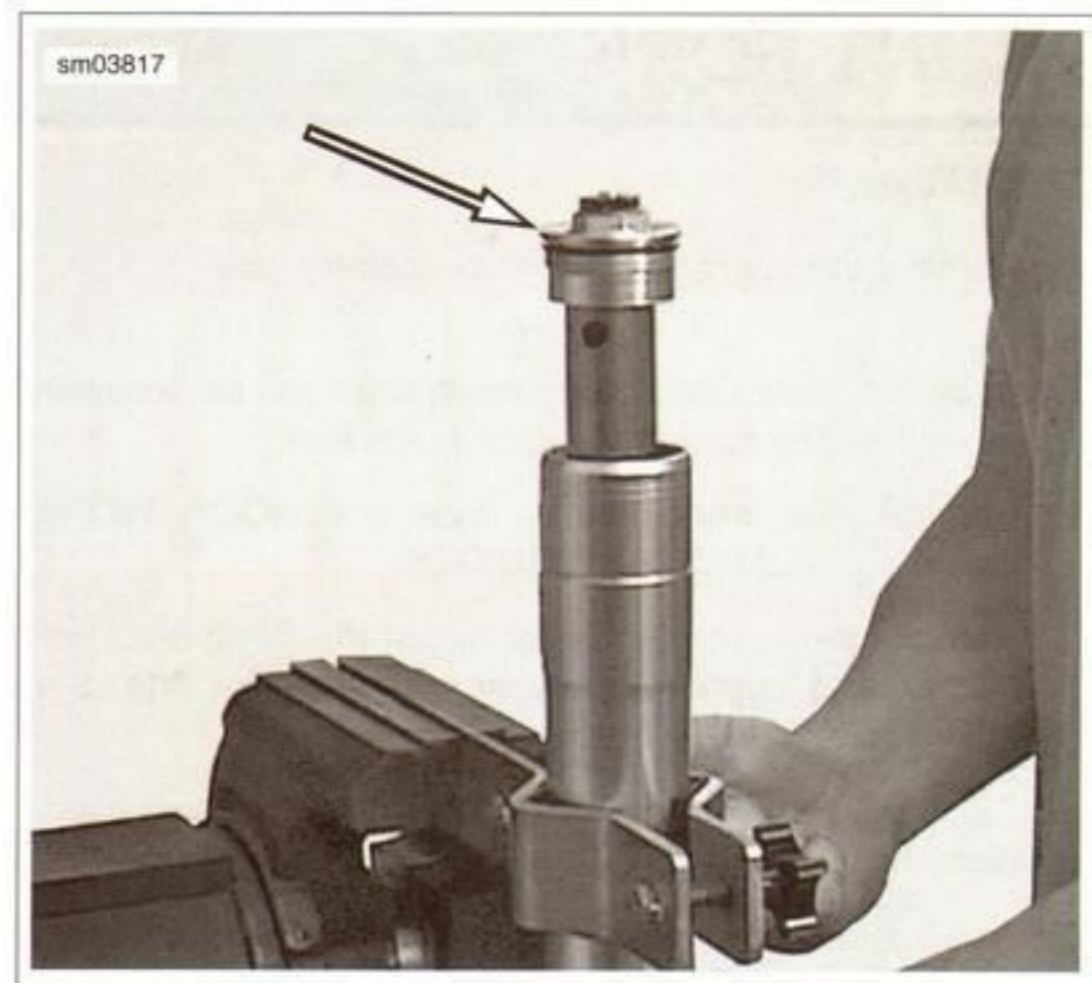
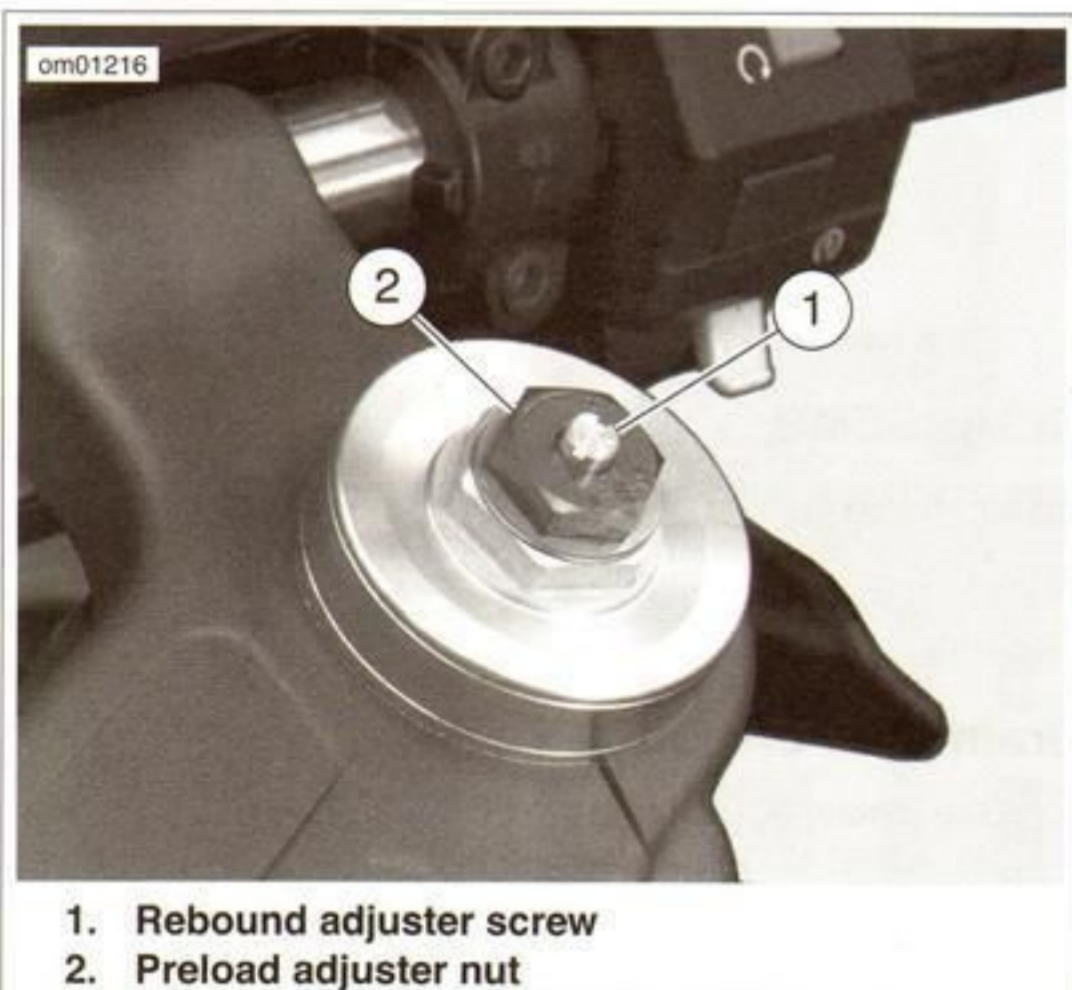

Figure 2-84. Fork Cap: 1125R
Figure 2-83. Front Fork Preload and Rebound Adjuster
- See Figure 2-83. Record rider suspension settings before disassembly.
- Always turn rebound adjuster (1) clockwise until it lightly bottoms out before beginning the disassembly process.
- Always turn preload adjuster (2) counterclockwise until it lightly bottoms out before beginning the disassembly process.
2. See Figure 2-84. Loosen the fork cap and pull up the spring collar to expose the preload and rebound assembly.